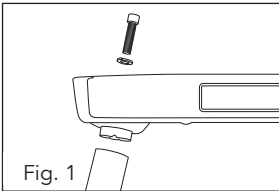

Fig. 1
1. Use the hex key (18), bolts and spring washers (21) to fasten the frame legs (1) to the base frame (12) (Fig. 1).